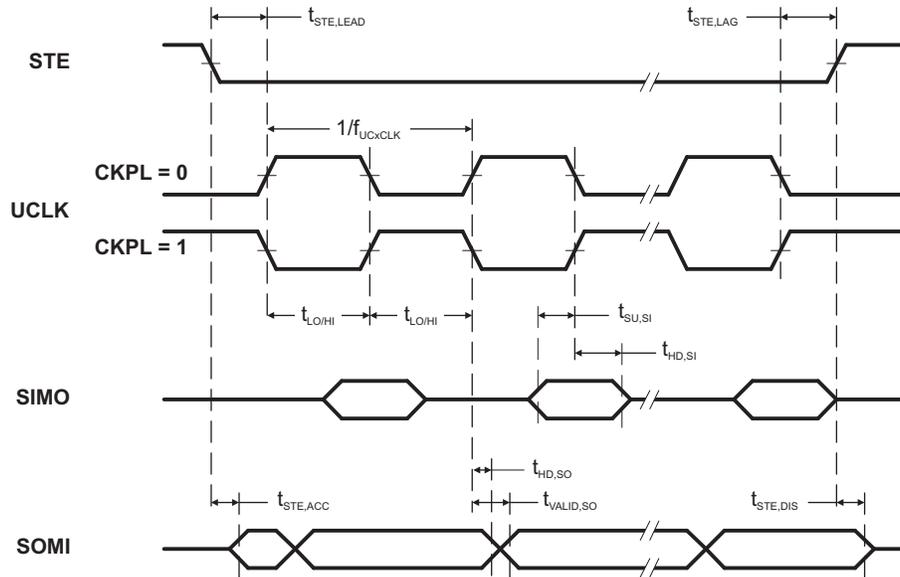
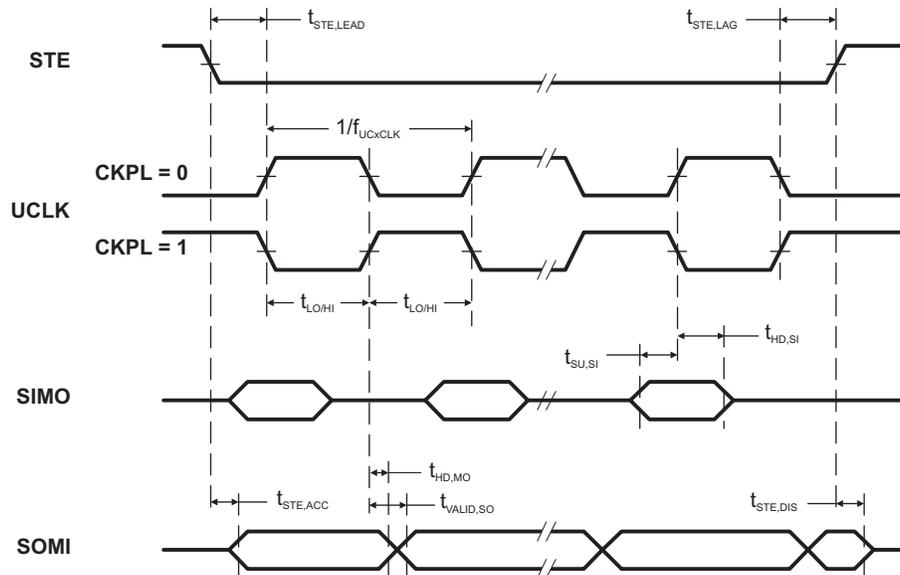

Figure 15. SPI Slave Mode, CKPH = 0
Figure 16. SPI Slave Mode, CKPH = 1
(see Note (1), Figure 15 and Figure 16)